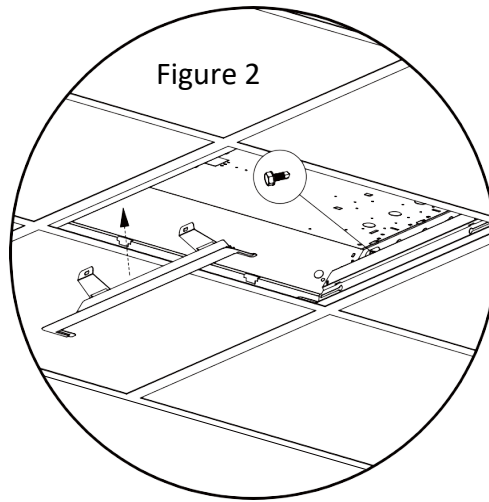

Figure 2
2. Install the two key-holed door frame end brackets (C) on both sides of the troffer fixture housing in the grid by gently lifting the housing and sliding the brackets between the housing and T-grid. Secure the brackets to the troffer housing using the self-tapping screws provided (D). (Fig. 2)